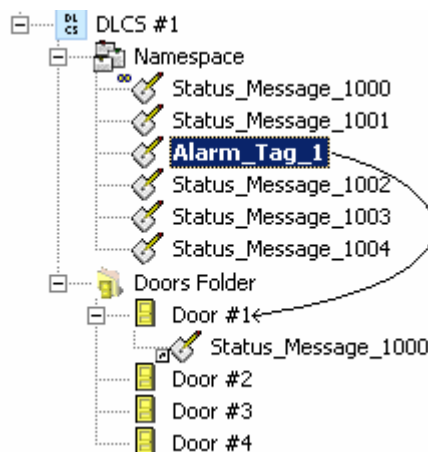

Fig 10 Linking OPC items in the Composer tree
4. Drag and drop the OPC items to the corresponding door (see Fig 10).